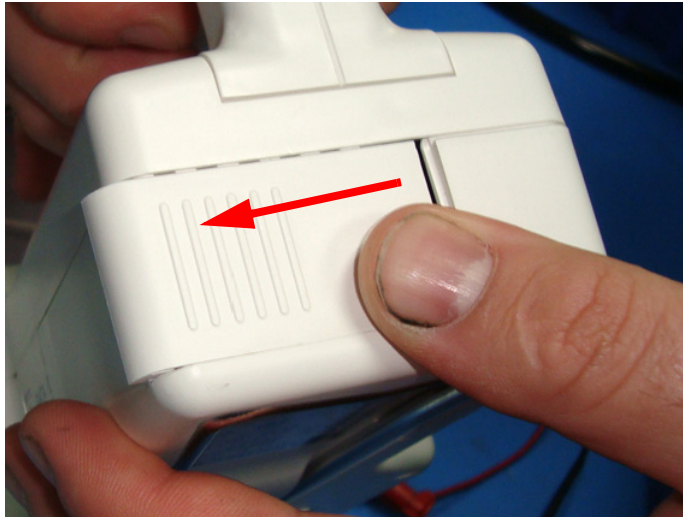

Figure 3-9 Unlatch Battery Compartment door
1. To remove the battery, open the door to the battery compartment by sliding the door to the left to unlatch it as shown in Figure 3-9.